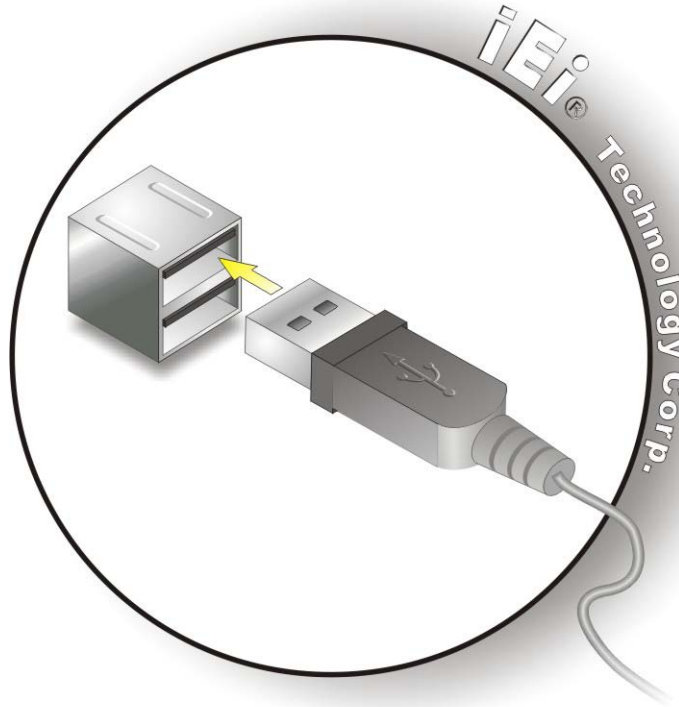

Figure 3-24: USB Device Connection
Step 2: **Align the connectors.** Align the USB device connector with one of the connectors. See **Figure 3-24**.